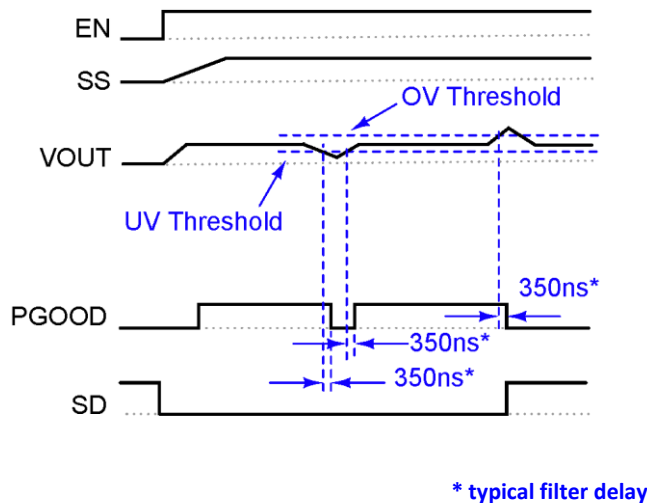

Figure 24: Under/Over Voltage Monitor
The IR3477 monitors the voltage at the FB node through a 350ns filter. If the FB voltage is below the under voltage threshold, UV# is set to LOW holding PGOOD to be LOW. If the FB voltage is above the over voltage threshold, OV# is set to LOW, the shutdown signal (SD) is set to HIGH, MOSFET gates are turned off, and PGOOD signal is pulled low. Toggling VCC or EN will allow the next start up. Figure 24 and 25 show PGOOD status change when UV/OV is detected. The over voltage and under voltage thresholds can be found in the Electrical Specification section.